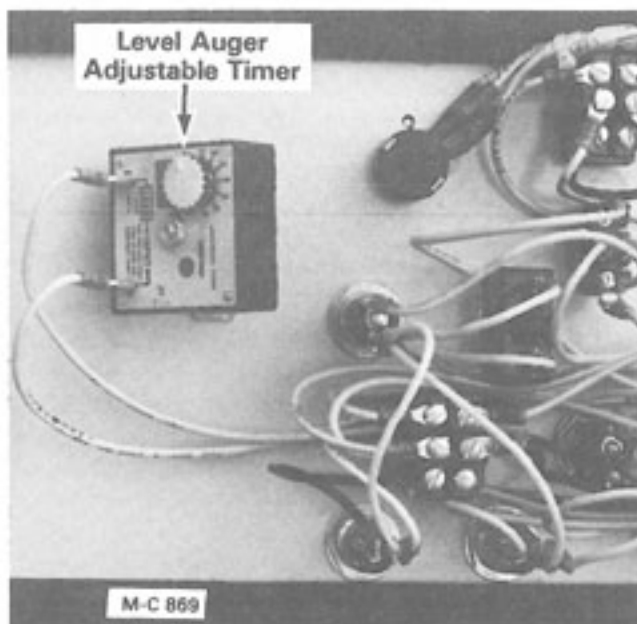

Figure 21
There is an adjustable .2 to 8 minute delay in the level auger circuit, see Figure 21. It is activated when the level auger switch is in the AUTOMATIC position and the level auger light is calling for grain.
1. Set the adjustable level auger delay, Figure 21, for time desired (.2 to 8 minutes).